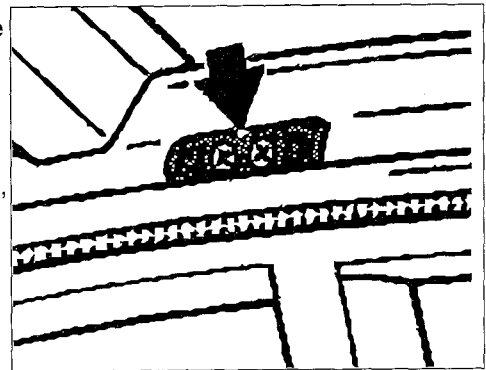

Figure 10
- Remove the rear axle plate (arrow, Figure 10) with the glass roof closed.